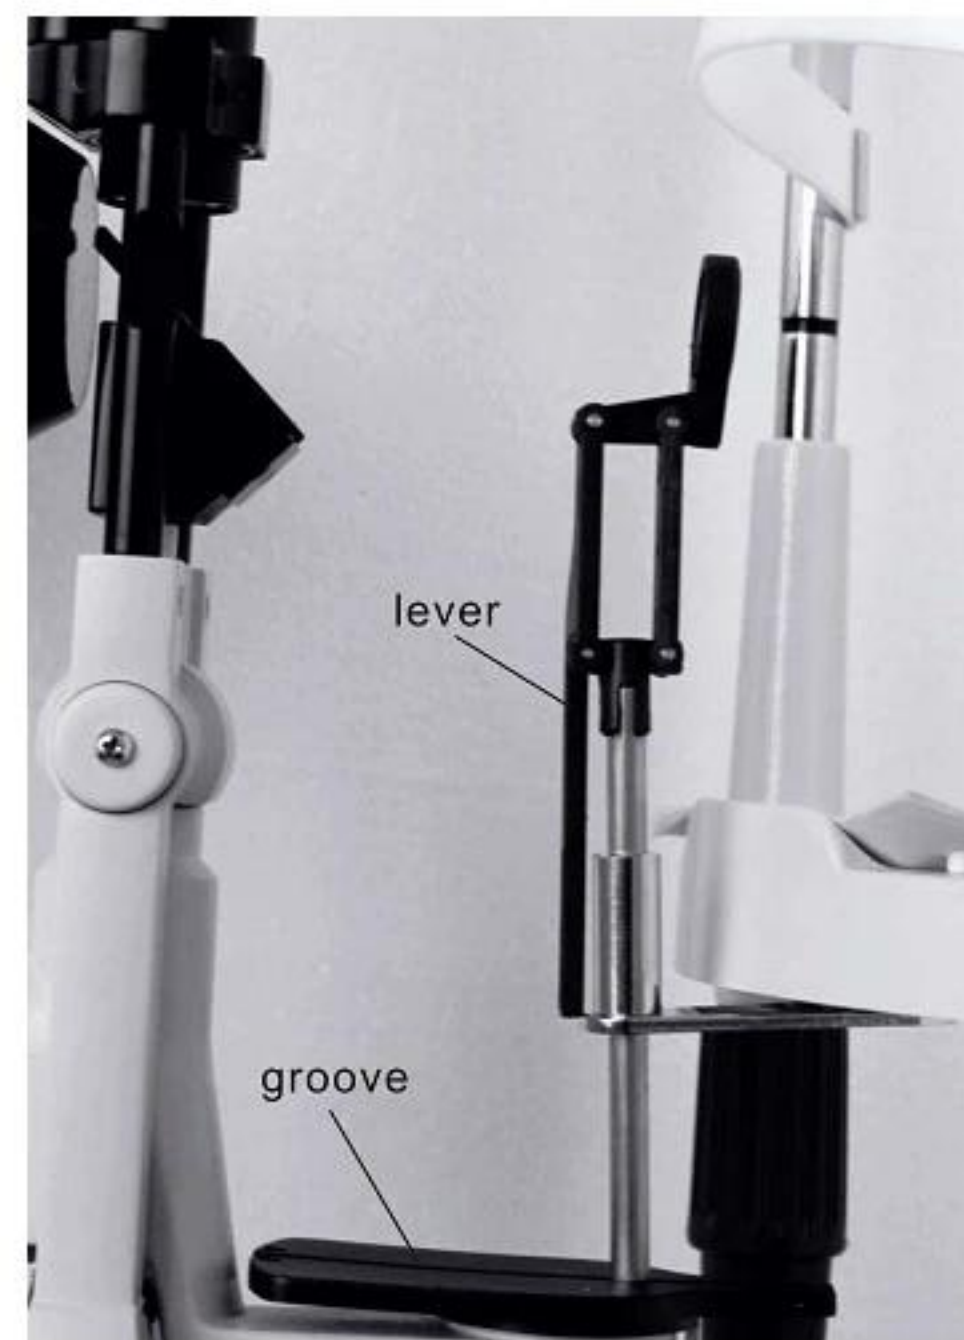

Fig.32
- 2) Insert the Hruby lens guide plate (15) into the main shaft hole of the illumination and the microscope arm.
- 3) Pull out the Hruby lens holder from one side of the headrest as shown in Fig.32. Move the Hruby lens holder toward the operator so that it can slide freely to the left and right below the chin-rest. Insert the lower end of Hruby lens lever into the groove on the guide plate.
- 5) Move the lever to locate the Hruby lens at the center of the vision field and near the patient's eye, as shown in Fig.32.